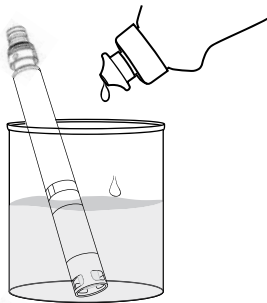

Figure 72 Cleaning the pH and pH/ORP sensor with dish soap
2. Soak for 10 minutes in a mild solution of clean water and dish soap (Figure 72). Rinse the sensor with tap water and inspect.